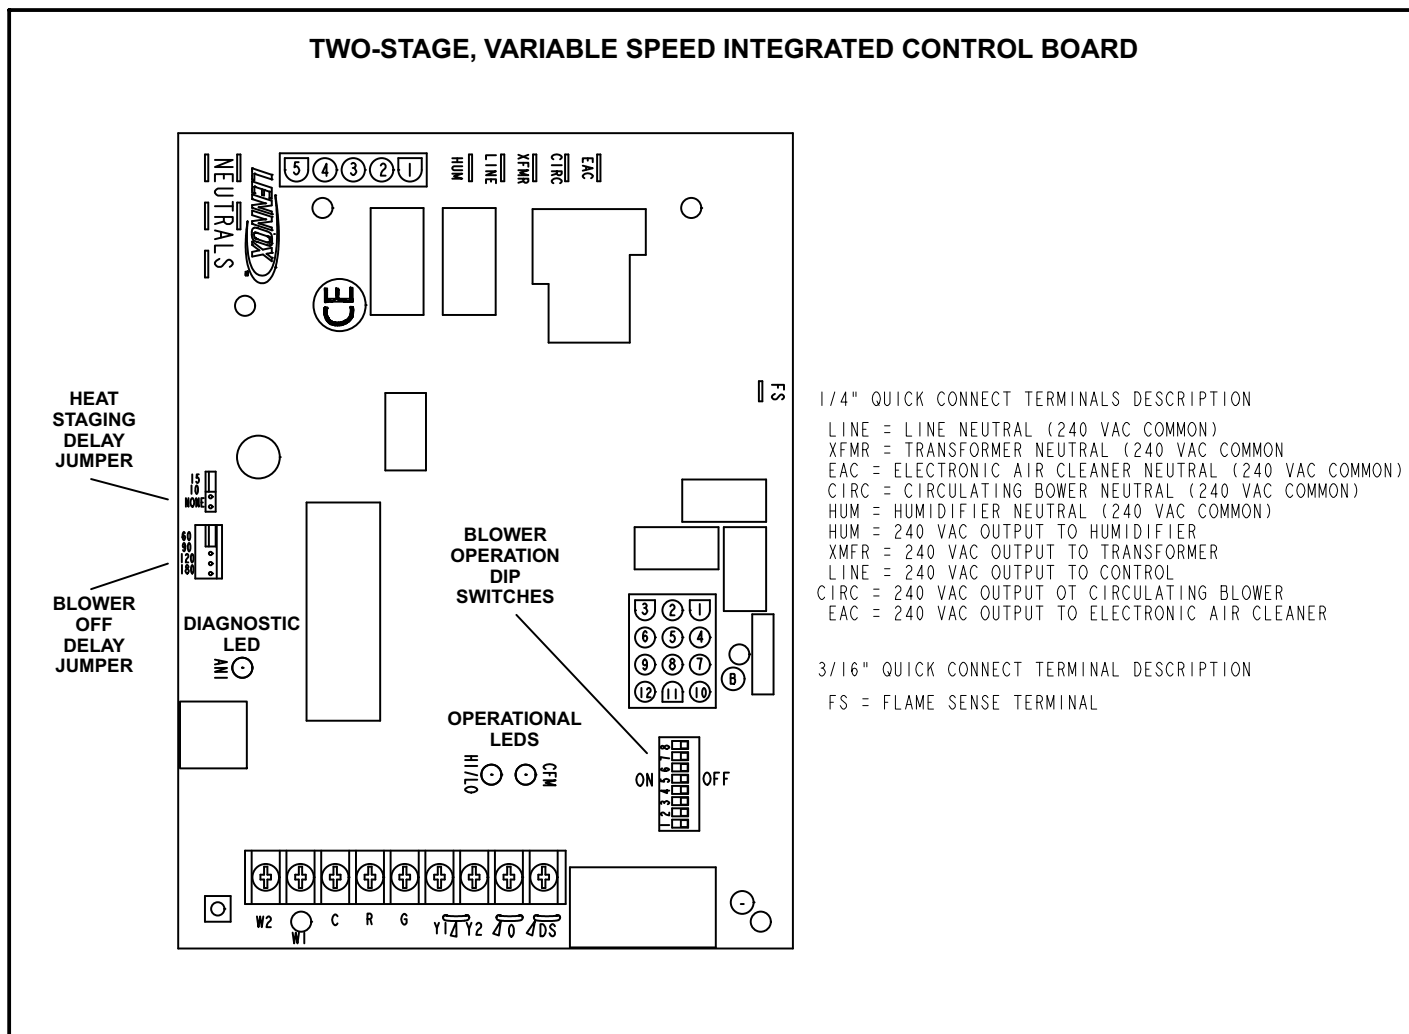

FIGURE 33
- 6 - One line voltage "EAC" spade terminal is provided on the furnace control board. Any electronic air cleaner rated up to one amp can be connected to this terminal with the neutral leg of the circuit being connected to one of the provided neutral terminals. See figure 33 for control board configuration. This terminal is energized when the indoor blower is operating.
- 7 - One line voltage "HUM" spade terminal is provided on the furnace control board. Any humidifier rated up to one amp can be connected to this terminal with the neutral leg of the circuit being connected to one of the provided neutral terminals. See figure 33 for control board configuration. This terminal is energized in the heating mode when the combustion air inducer is operating.